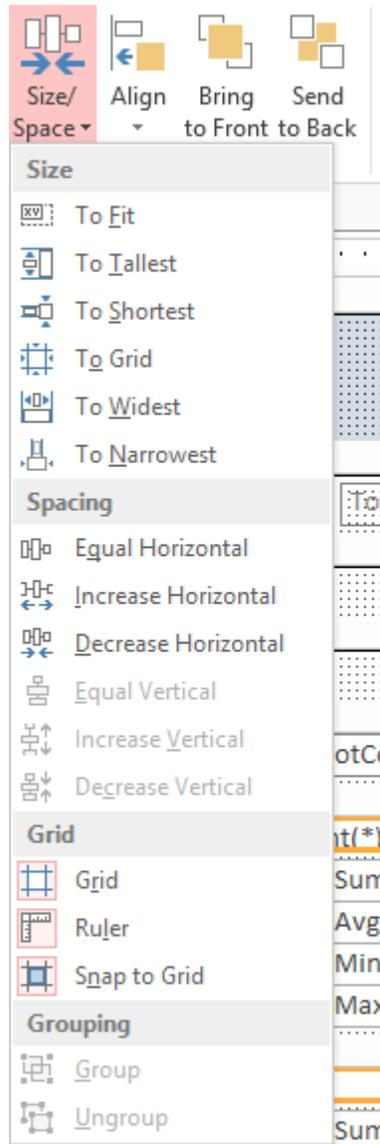

Figure 14: Size/Shape Items in the Arrange Tab of the Ribbon
- **To Format the Group Unit:** You can change fonts and use bold, italics, or underline with the toolbar. Your changes will affect all of the controls at the same time. You can use the commands in the **Arrange** tab in the Report Design Tools dynamic part on the Ribbon (Figures 14) to align, size, or space controls. The **Align** and **Size/Space** menus are also available by clicking the right mouse button. To obtain a precise fit, you can use the **Arrange** → **Size/Space** → **To Fit** command. The control will automatically adjust to the size of its data if you use this formatting feature.